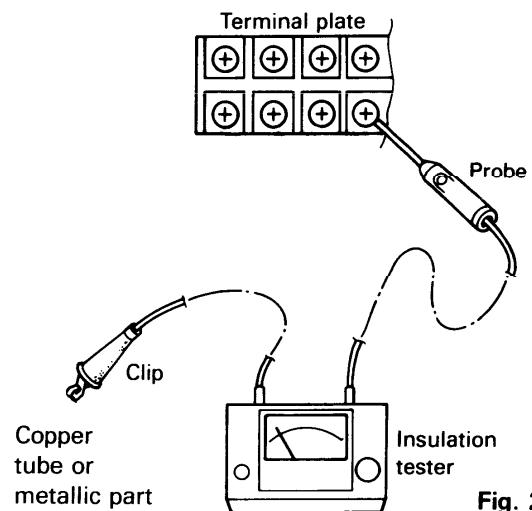

Fig. 2
Clamp the aluminum plate fin or copper tube with a lead clip of the insulation resistance tester and measure the resistance by placing a probe on (5), and then (6) on the terminal plate. (Fig. 2)
Clamp the metallic part of the unit with a lead clip of the insulation resistance tester and measure the resistance by placing a probe on (5), and then (6) on the terminal plate. (Fig. 2)